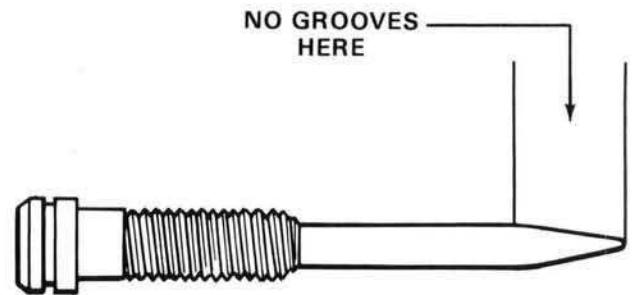

Figure 28. Inspecting Idle Needle.
2. Remove idle needle and spring. Inspect for damage. The needle must be replaced if there are any grooves on the seat point surface. Figure 28.